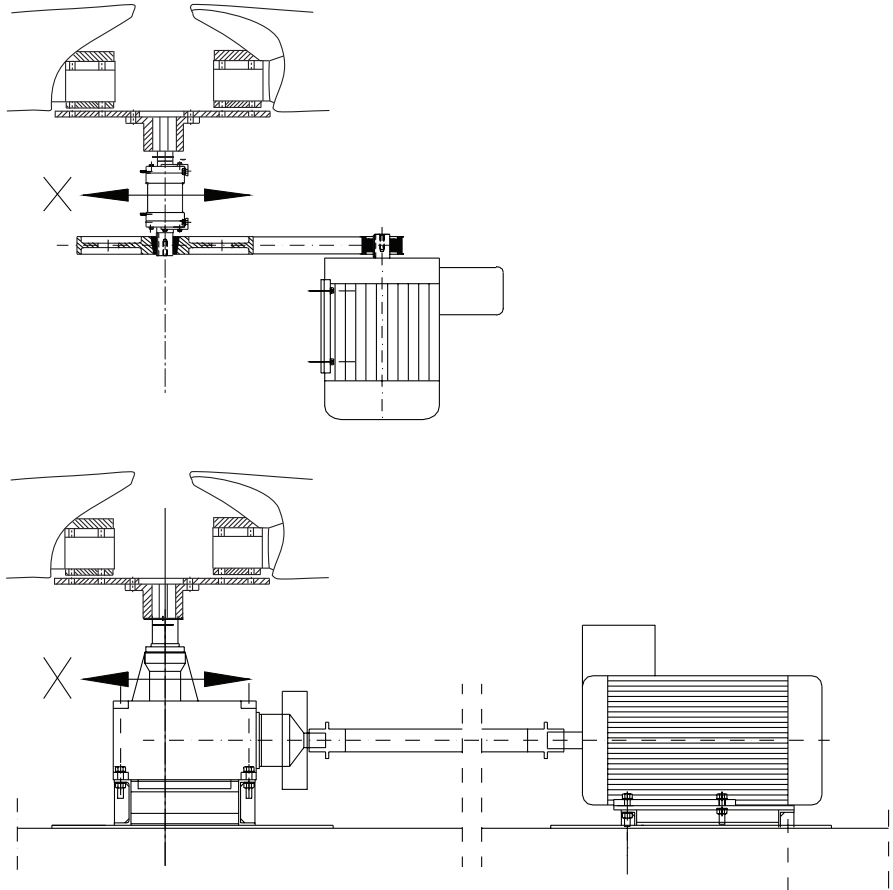

Figure 5
- 2—Check the vibrations level in the position shown in Figure 5. Do not exceed the most restrictive amplitude values between the limits imposed by the normative of the structure where the fan is installed and the limits imposed by the VDI 2056 normative. In this case, shut down the unit and trace the cause of such excessive vibration by referring to section Possible Causes of Vibration in the following section.
6—Check the vibrations level in the position shown in Figure 5 at regular intervals.